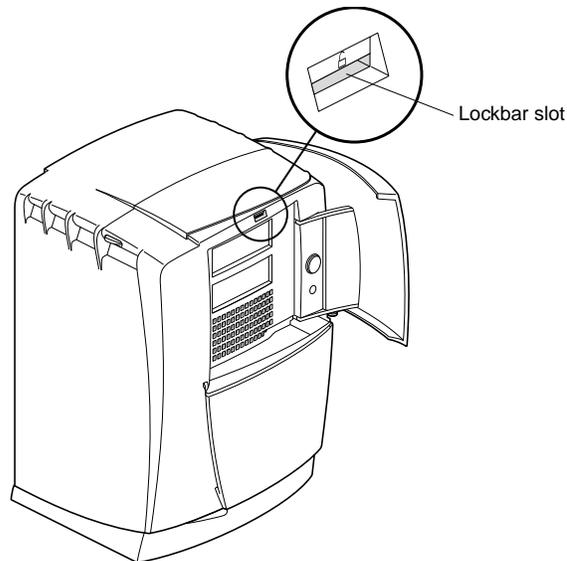

Figure 7-2 Locating the Lockbar on the Front of the Octane2 Workstation
1. Locate the lockbar, as shown in Figure 7-2.